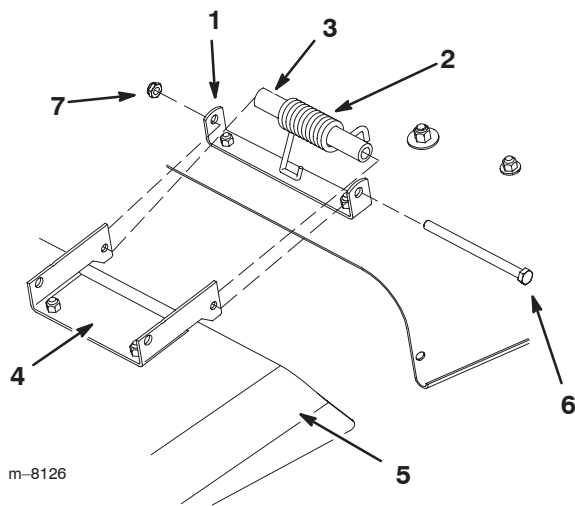

Figure 47
1. Remove the locknut, bolt, spacer, and spring holding the deflector to the mower brackets (Fig. 47). Remove the damaged or worn grass deflector.
2. Align the grass deflector with the holes in the brackets and the spring and spacer straight ends in the space between the brackets and above the deflector (Fig. 47).
3. Place the spring and spacer so that the hooked ends of the spring are pointing down, with one end contacting on the mower deck and the other over the deflector (Fig. 47).